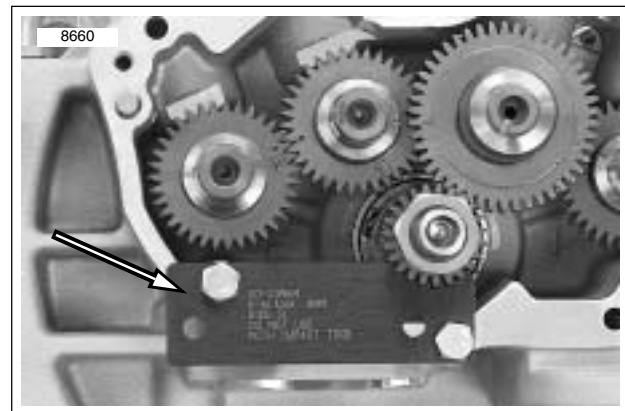

Figure 3-128. Crankshaft Locking Tool
- b. See Figure 3-128. Install CRANKSHAFT LOCKING TOOL (Part No. HD-43984) to gearcase with "Side B" facing out, over pinion shaft, with two screws.